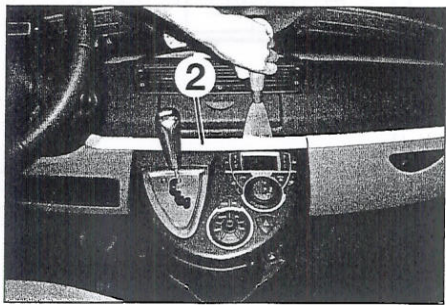

FIGURA 9-8
- Desengrapar el junquillo embellecedor central (2) (figura 9-8).